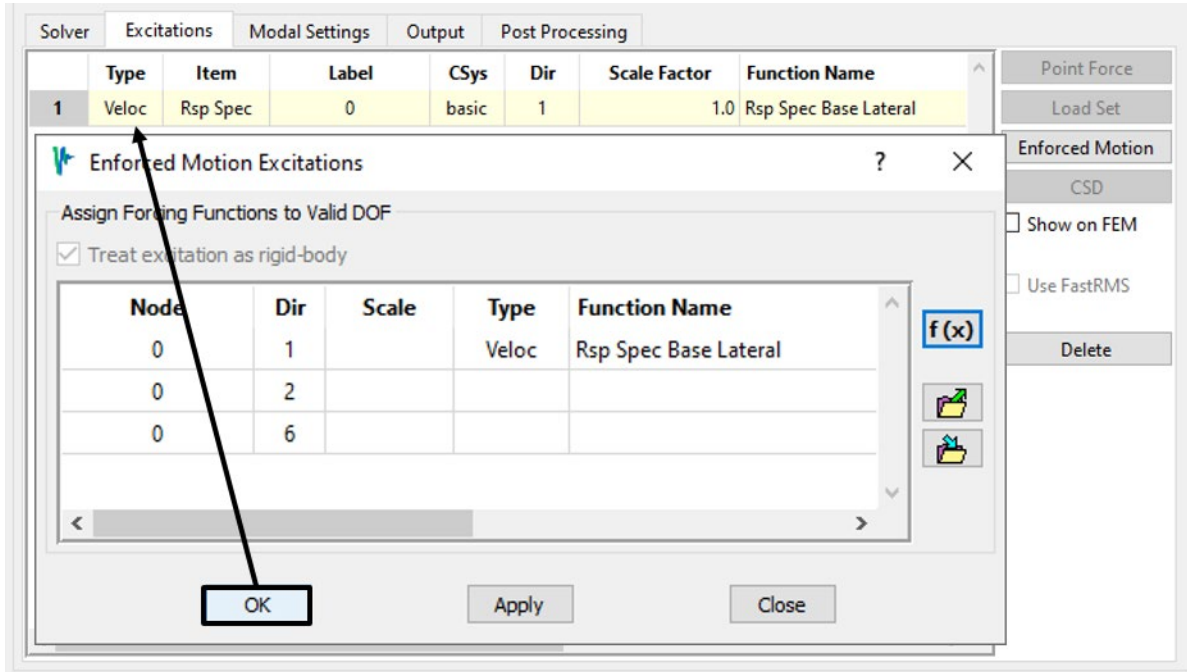

Figure 4-81. The excitation uses the basic coordinate system.
- Click **OK** on the enforced motion dialog to finalize the excitation definition (Figure 4-81). Note that it uses the basic coordinate system. Also note that it is considered part of rigid body motion set; this makes no difference here, but it would be important if more than one direction were being excited.